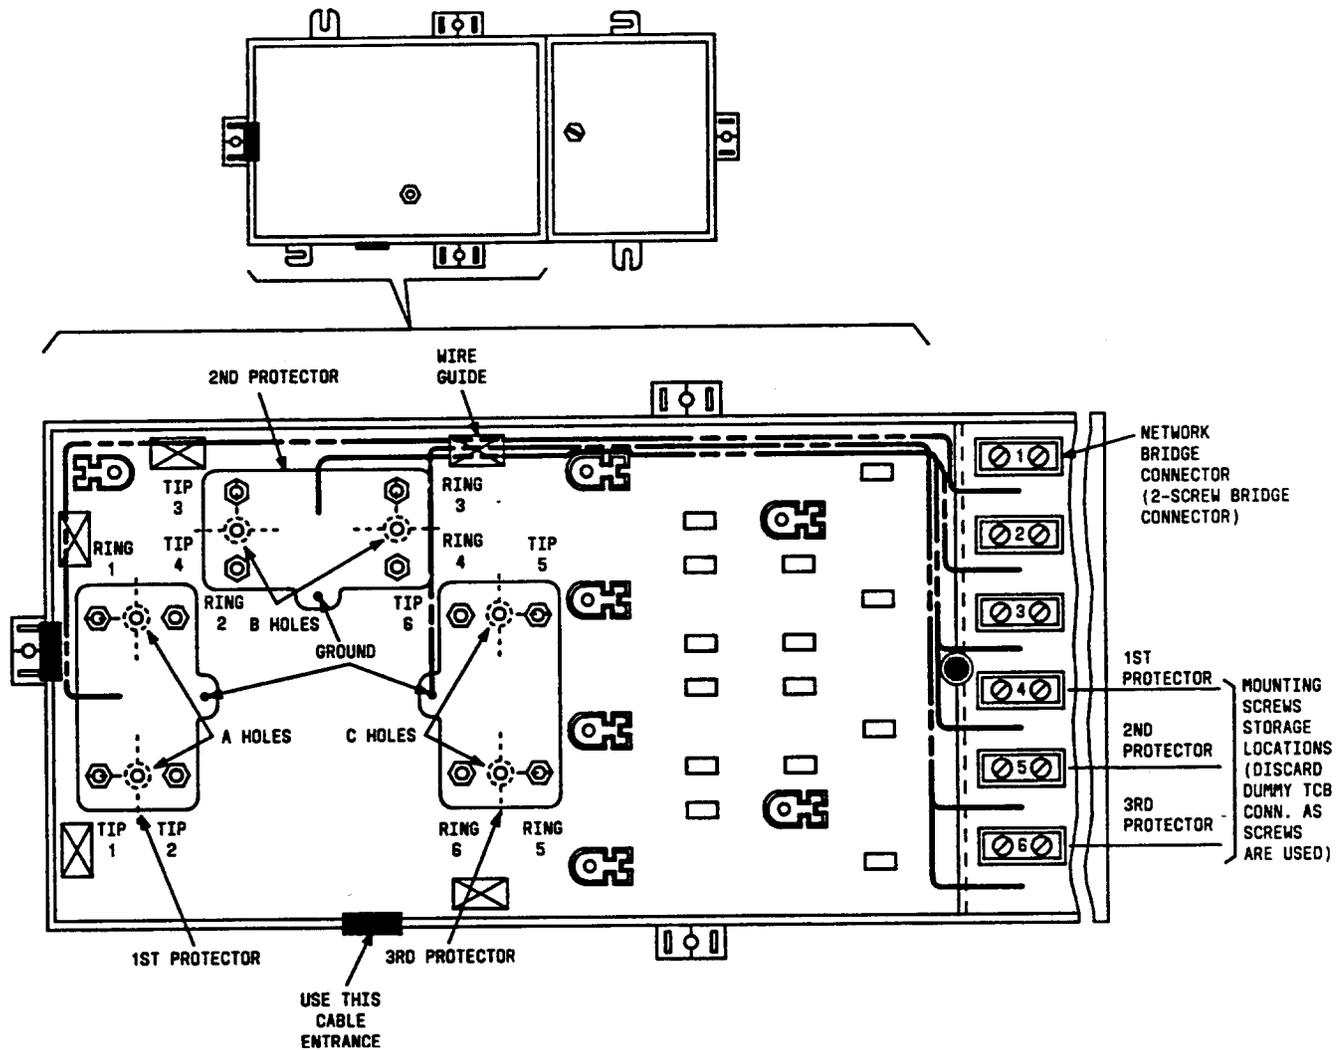

Fig. 7—Installing the 128-Type (2-Pair) Protectors — Horizontal Mount (DA as of February 1989)
5.04 To install the 128-type (2-pair) protectors in the horizontal mount (Fig. 7), use the following procedures:
- (1) Open the customer access cover.
- (2) Open the telephone company access cover using the KS-19192, L1 wrench.
- (3) Locate the protector mounting holes as shown.
- (4) Mount the 1st, 2nd, and 3rd protector as shown in Fig. 7 and on the left cover of the unit.
- (5) Route the wire from the network bridge to the protector and terminate on the protector binding post as shown.
- (6) Dress the wire into the wire guides.